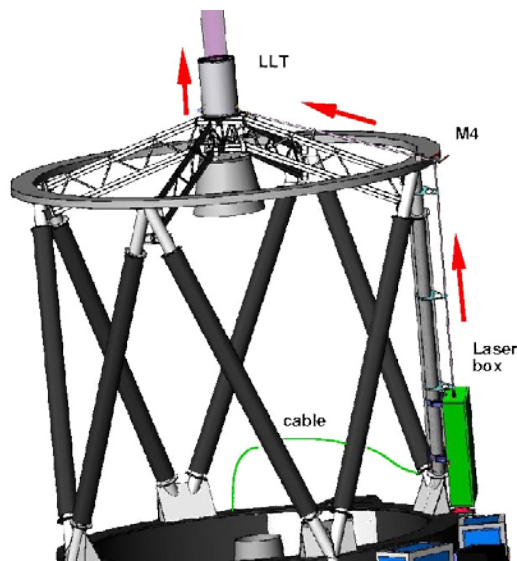

Figure 1. - Laser Beam Path
Attached to the telescope above the floor level area is a high-power ultraviolet (UV) laser that is used for correcting the effects of turbulence of the atmosphere. The laser beam is fully enclosed until it reaches the top of the telescope, then it is expanded to a 25-cm diameter and launched into the atmosphere (Figure 1). When the laser is turned on during operation, the beam is not visible to people and the amount of scattered UV light at the level of the dome and telescope platform is much less than at the sunny beach. There is no danger to personnel during normal routine operation of the laser.